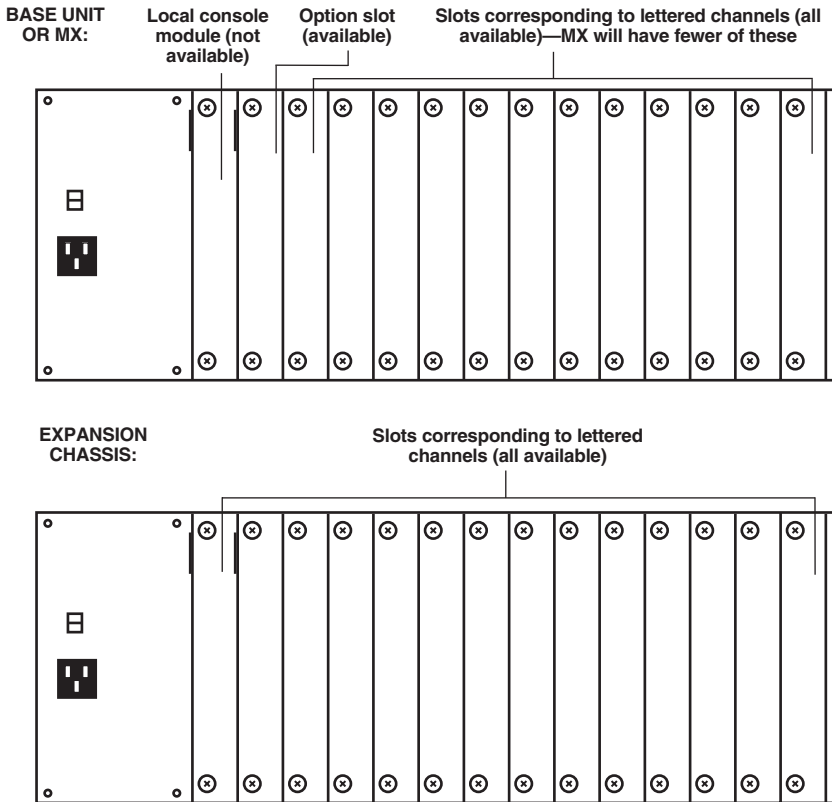

Figure 2-1. The ServSwitch Multi rear panels (as shipped from the factory).
1. Position the ServSwitch Multi or MX so that its rear panel is facing you, as shown in Figure 2-1. Choose an available slot. In most cases, any slot that is covered with a blank (connectorless) panel will be available. However, note that on the Base Unit or MX, the local-console module on the far left end of the Switch's rear panel *is* covered by a blank panel but *is not* an available slot; no ServSwitch Multi Card of any type can be installed in that slot. Remember that the option slot (the slot just to the right of the local-console module, which has no corresponding front-panel LED or pushbutton) *is* an available slot and can host any card other than a CPU Interface Card.